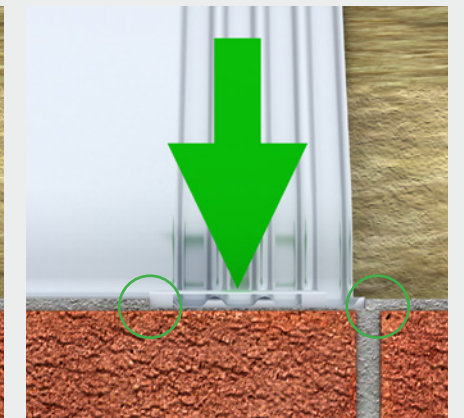

Figure 5
*Brick Trays hidden from Figure 4 and Figure 5 for clarity